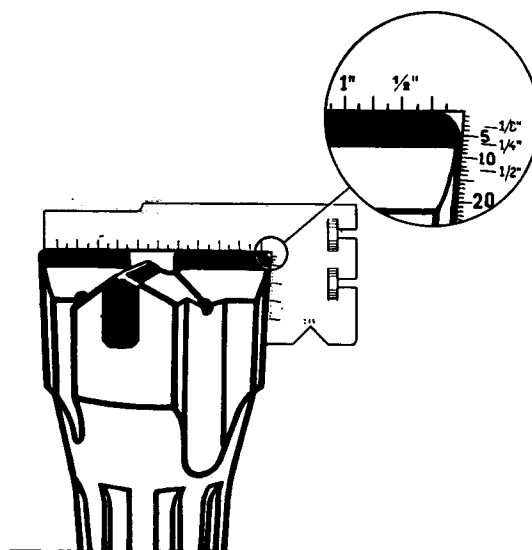

Fig. 58b. Height of anti-taper
- when the anti-taper reaches a height of 6.4 mm (Fig. 58b), or